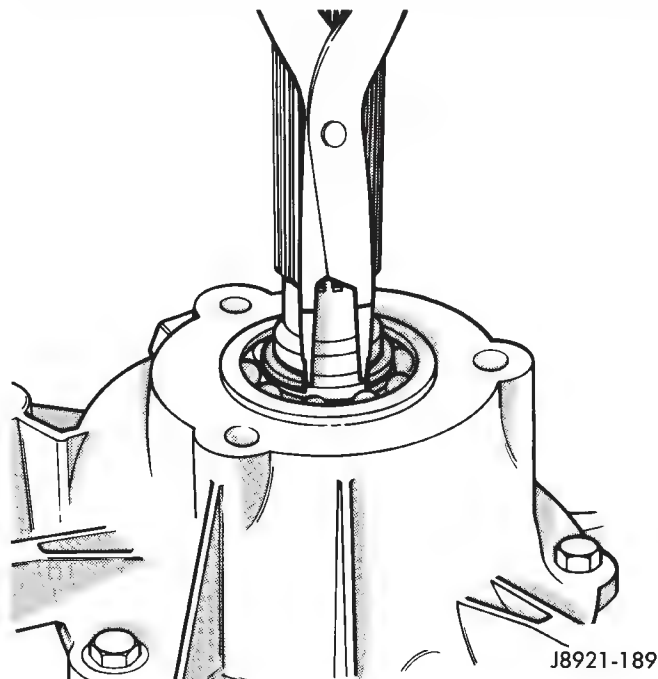

Fig. 76 Rear Bearing Snap Ring Installation
(65) Apply 3 mm (1/8 in.) wide bead of Mopar gasket maker, silicone adhesive sealer, or Loctite 518 to seal surface of rear retainer.
(66) Install locating dowel in rear retainer (if removed) and install retainer on the case. Tighten retainer bolts to 41 N·m (30 ft. lbs.) torque.
(67) Install new rear bearing snap ring (Fig. 76). Lift mainshaft slightly to seat snap ring if necessary.
(68) Remove extension housing seal if not removed